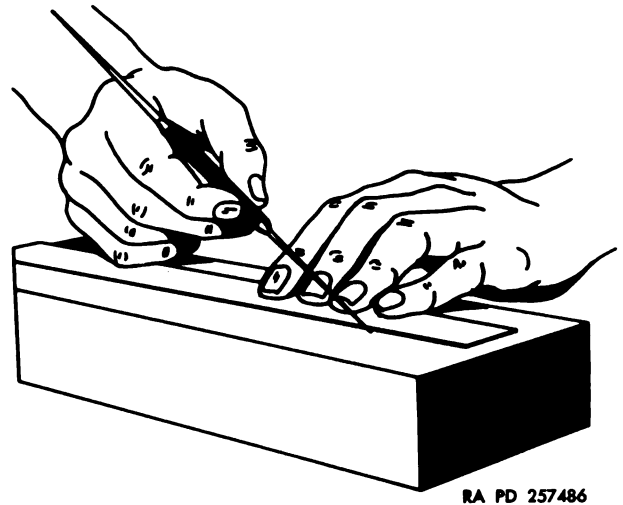

Figure 16. Using the scribe.
d. Use the fingertips of one hand to hold the rule in position and hold the scribe in the other hand as you would a pencil (fig. 16).